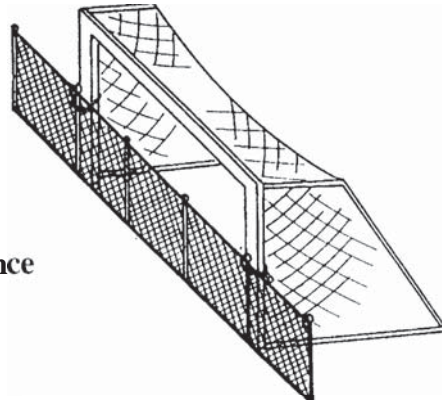

Figure 4.2: Attach Goal Face to Permanent Fence with a Chain Lock
- 2) Lock and chain to a suitable fixed structure such as a permanent fence (see Figure 4.2),